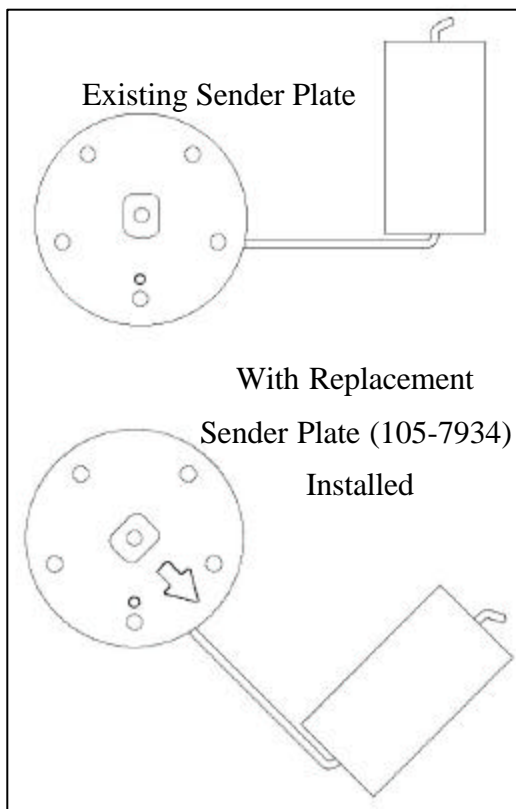

Figure 2
4. Reassemble the sender using replacement Sender Plate (105-7934). (see figure 2) Insure insulators are positioned in the order they were disassembled and that the arrow points toward the float.